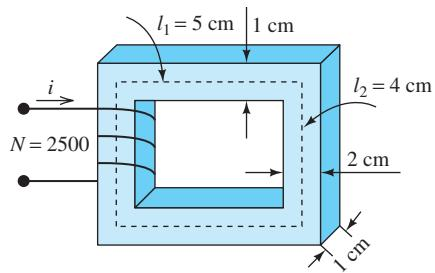

FIGURE P12.12 Magnetic core.
- 12.12** (B) Find the reluctance of the core given in Figure P12.12 if $\mu_r = 1000$.